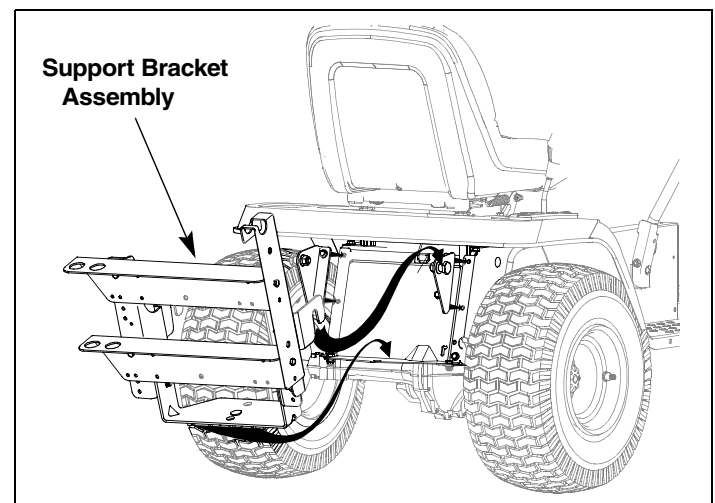
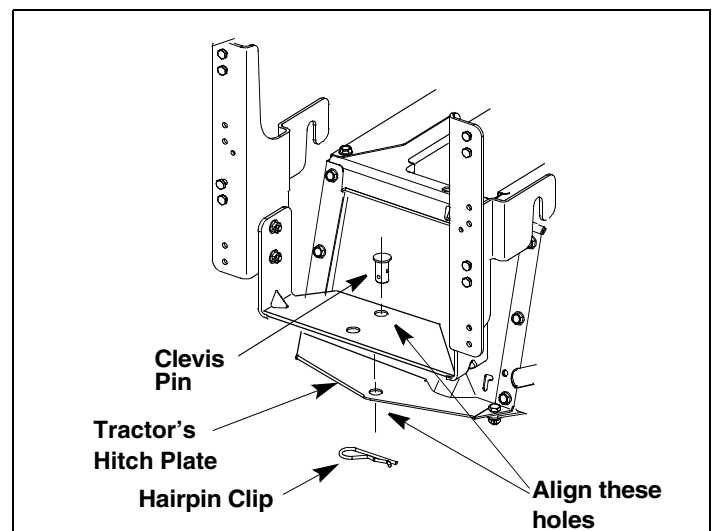

Figure 5
Figure 6
- Rotate the Support Cross Bracket between the Support Catcher Brackets so that the tongue portion is facing the same direction as the hook ends of the Catcher Support Brackets. Refer to Figure 6.
- Reinstall the four (4) bolts and nuts removed earlier. Do not tighten, leave slightly loose.
- Position the hooked ends of the Support Catcher Bracket Assembly to the outside of the Support Catcher Brackets sides as shown in Figure 5.
- Align the hole at the lower end of the Support Bracket Assembly to the hole on the hitch plate on the tractor and insert the clevis pin through these two holes. Secure the clevis pin with the internal cotter pin, 714-0117, also from the hardware package that came with the grass bagger. Refer to Figure 6.